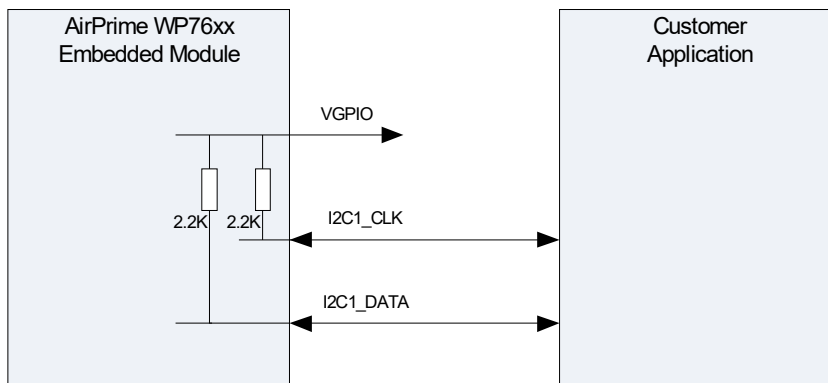

Figure 4-5: Example of I²C Bus Application
- I²C signals are implemented internally as open drain outputs (per the I²C specification) with 2.2 k Ω pull-up resistors to VGPIO (see Figure 4-5 on page 92).